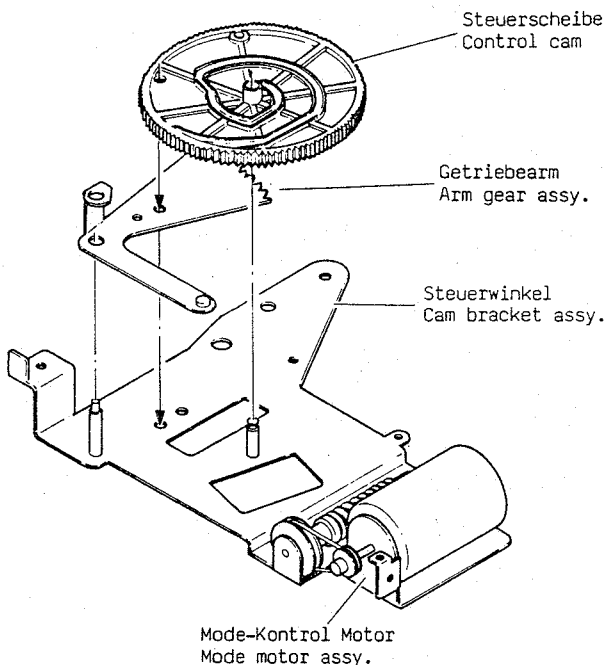

Fig. 1-3-3 Steuerscheibe / Control cam
2. Install the control cam on the cam bracket assembly so that the hole of the control cam overlaps the hole which is indicated in the step 1), as shown in Fig. 1.3.3. Do not turn the control cam from this position for the next step.